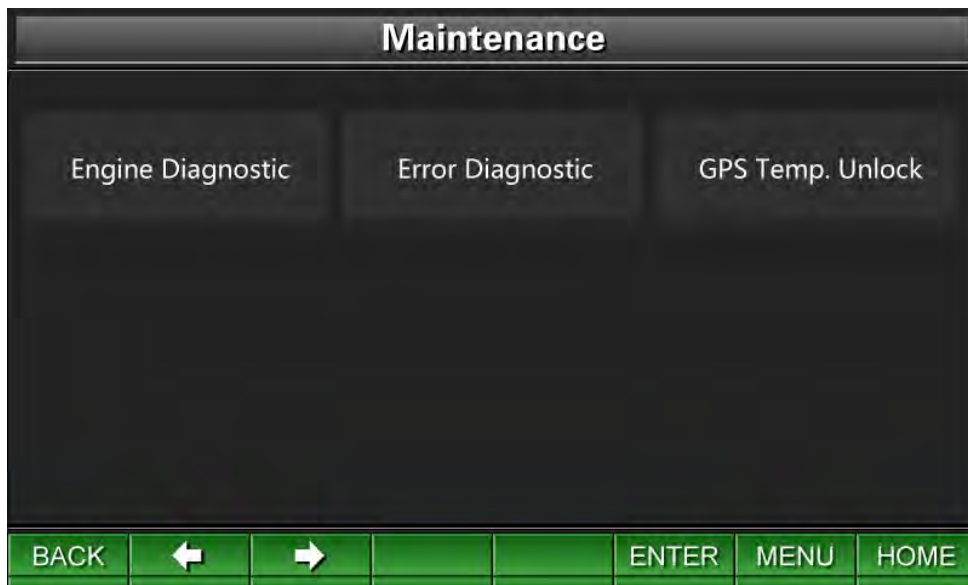

Figure 06 – 27 Maintenance
- (1) Engine Diagnostic: move the cursor to select the icon “Engine diagnostic” and press the key “ENTER” to enter the Engine Diagnostic Screen. See Figure 06 – 28.
- (2) Error Diagnostic: move the cursor to select the icon “Error diagnostic” and press the key “ENTER” to enter the Error Diagnostic Screen. See Figure 06 – 29 and Figure 06 – 30.